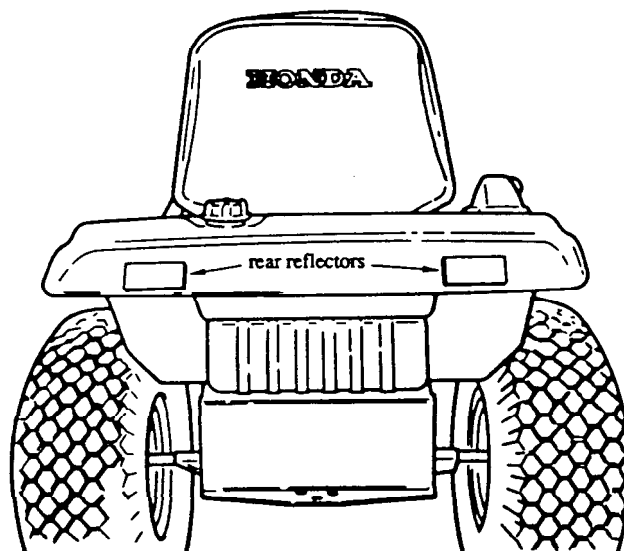

FIGURE 10
- m) Attach the two self adhesive reflectors to the rear fender as illustrated in figure 10.